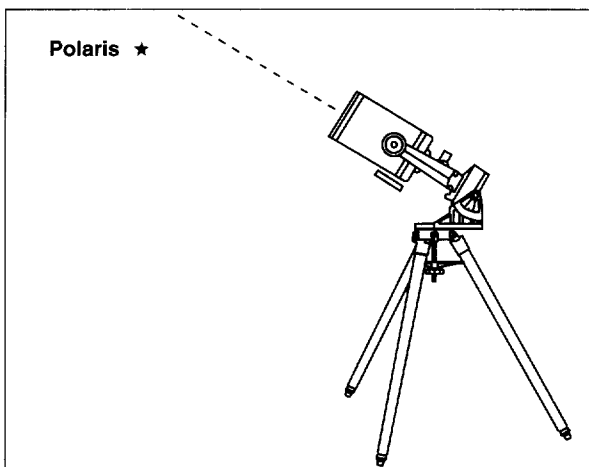

Fig. 19: Telescope aligned too high
- b. If the star drifts North (or up), the telescope’s polar axis is pointing too high (Fig. 19).